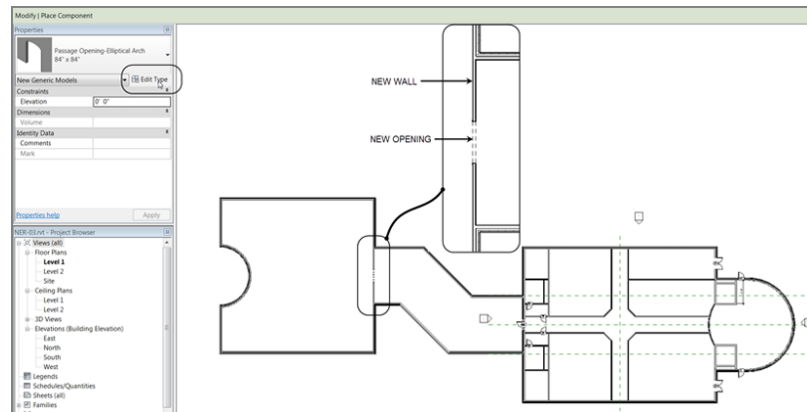

FIGURE 2.75: The new opening
5. Click the Edit Type button in the Properties dialog, as shown in Figure 2.75.
10. Zoom into the area shown in Figure 2.75, and place an Interior - 6 1/8" Partition (2-hr) (Interior - 135mm Partition (2-hr)) wall as shown. This is the wall into which you'll place the opening.
11. On the Architecture tab, click Component, and place the opening into the wall as shown in Figure 2.75.